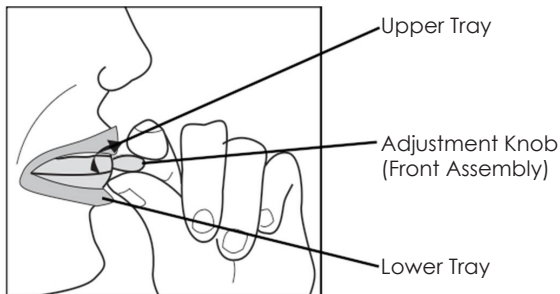

Fig. 28.1 Patient advancing the lower jaw forward.
1. To pull the lower jaw forward with the appliance in the mouth, instruct the patient to turn the knob counter clockwise (towards the left ear). See Figure 28.1.